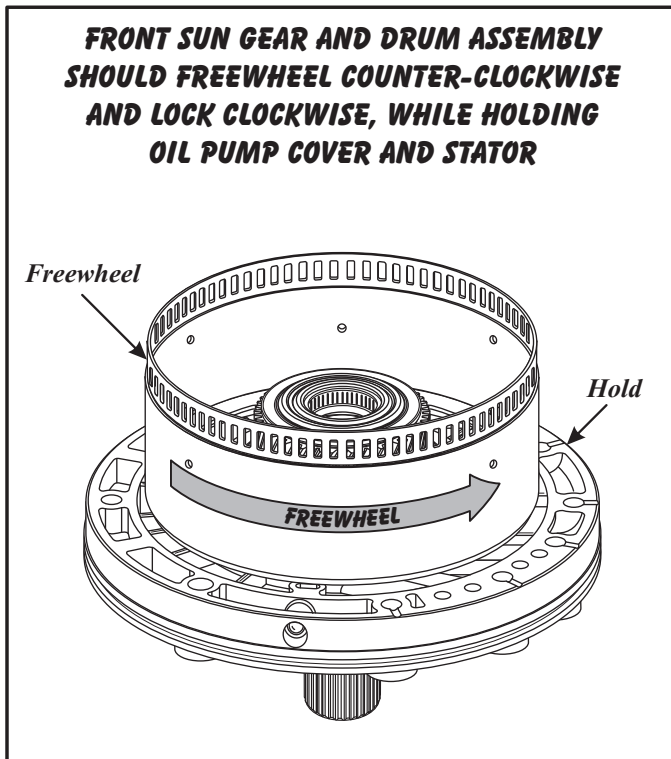

Figure 111
11. Install the completed front sun gear and drum assembly onto completed oil pump assembly, as shown in Figure 111.